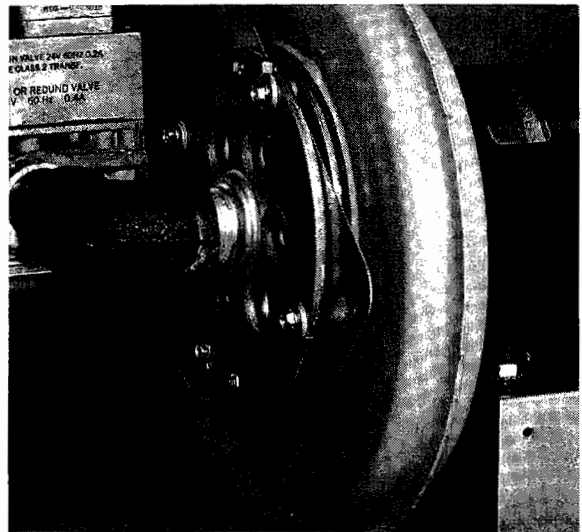

FIGURE 32
1. Loosen screws A (3) with 1/4" box or open end wrench. (Fig. 32)